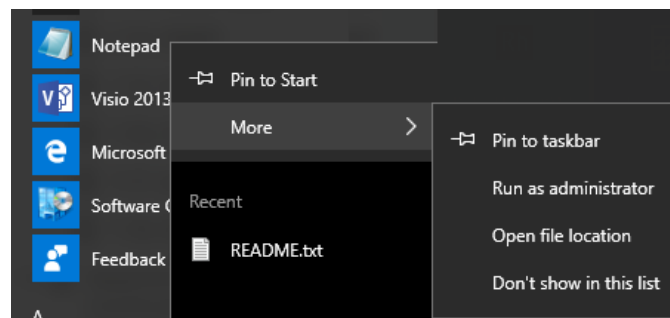

Figure 62: Run Notepad as Administrator
2. Select More > Run as administrator (Figure 62).